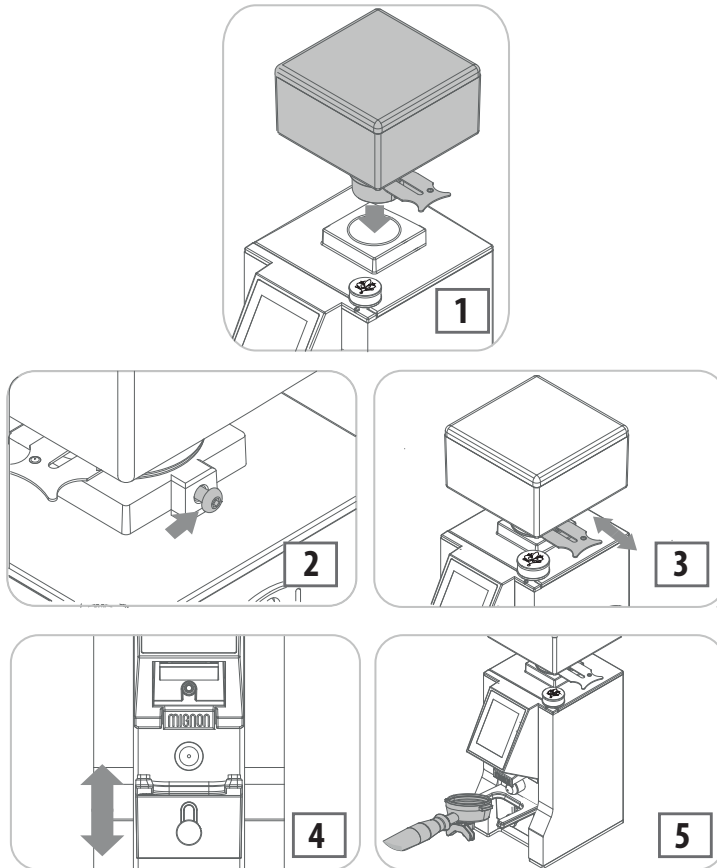

Fig. 7.1 - Preliminary operations
- Insert the coffee bean container in its seat (1 - Fig. 7.1), positioning it so the hole is aligned with the screw on the back (2 - Fig. 7.1).
- Push the tab to prevent the coffee beans from passing through (3 - Fig. 7.1).
- Loosen the knob (4 - Fig. 7.1) to adjust the height of the portafilter fork. Once the fork is at the required height, tighten the knob again.